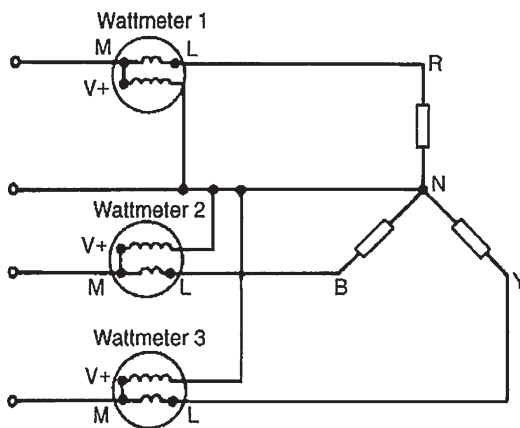

Figure 20.14
- (iii) **Three-wattmeter method for a three-phase, four-wire system for balanced and unbalanced loads** (see Fig. 20.14).